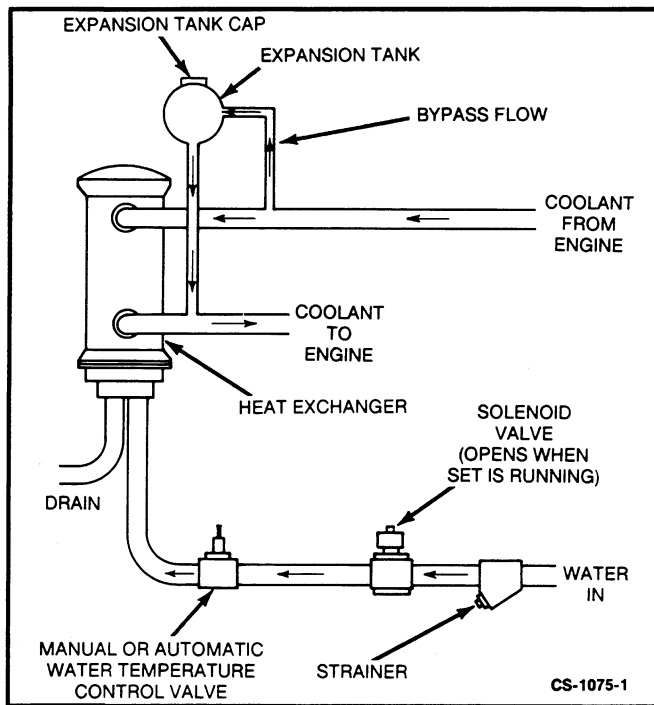

FIGURE 5-8. TYPICAL HEAT EXCHANGER SYSTEM
**Heat Exchanger (Optional):** Heat exchanger cooled sets (see Figure 5-8) do not use a conventional radiator. Instead, a constantly changing water flow cools the heat exchanger which in turn cools the engine coolant. Sufficient air movement and fresh air must be available to disperse heat radiated from the heat exchanger.